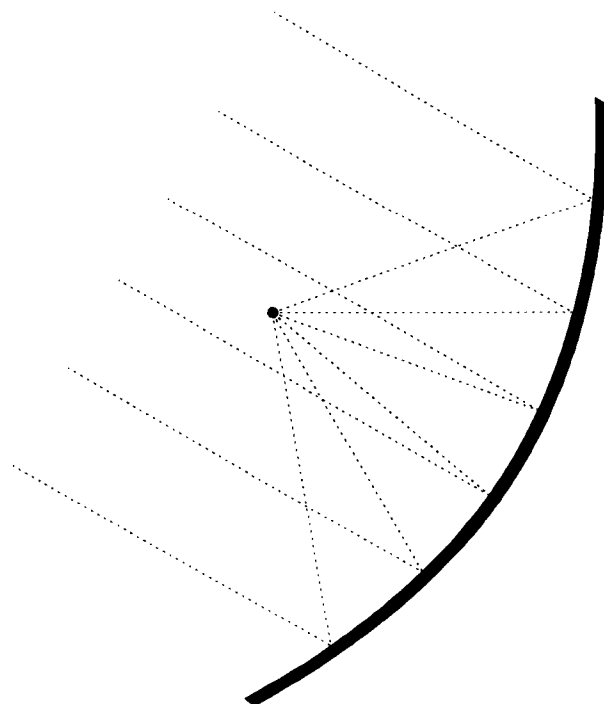

Fig 1—A parabolic dish antenna aimed at a satellite.
1. A 30-inch conventional dish at 10 GHz, with a measured gain of 36.4 dBi and efficiency of 64%. The estimated spillover efficiency is 87% for a 10-dB illumination taper. With the dish pointing at a high elevation, as shown in Fig 1, perhaps half of the spillover is illuminating earth at 290 K, which adds an estimated 19 K to the 6 K of sky noise, for a total of 25 K. In a 500-Hz bandwidth, the noise output is  $-157.6 \text{ dBm}$ .